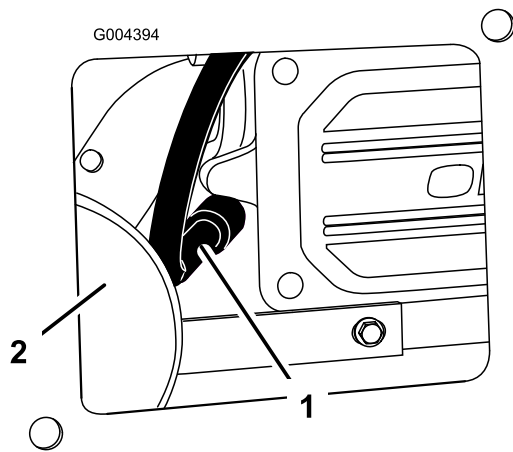

Figure 37
3. Pull the wire off of the spark plug (Figure 37). Clean around the spark plug to prevent dirt from falling into the engine and potentially causing damage.
3. Push the wire onto the spark plug (Figure 37).